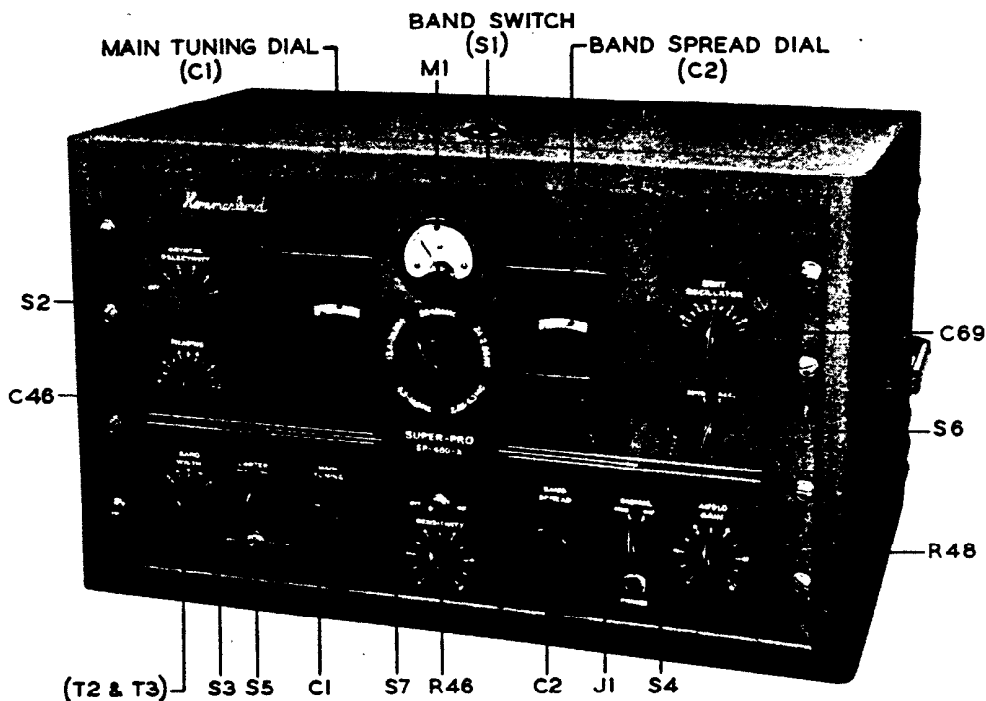
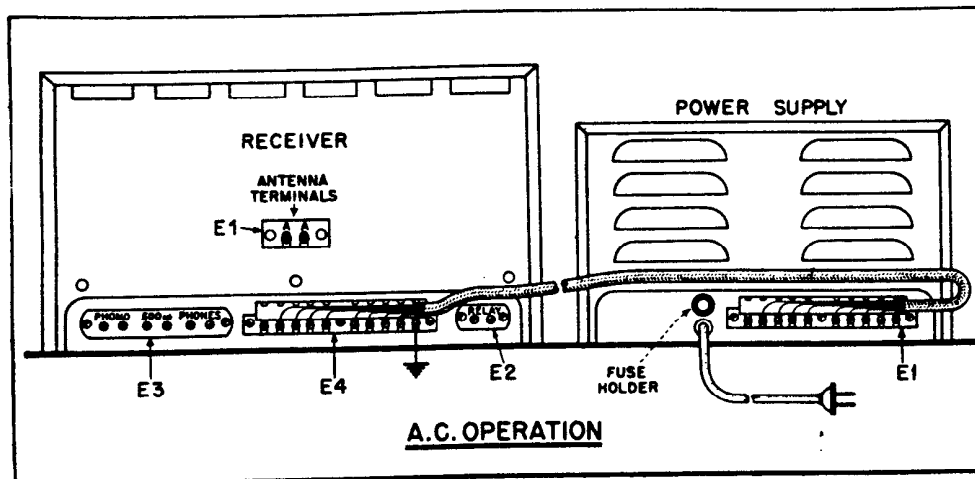

FIG. 2—Lay-out of controls referred to in text.
FIG. 3—Connectors for power cable—A.C. operation.
panel (FIG. 2). Select the desired band by turning the BAND SWITCH knob right or left to the band indicated.
a. *Rating*—The total power output is approximately 8 watts. The total harmonic distortion of the output stage is less than 10% at this output and is, of course, less at lower levels. The Receiver has two output circuits with marked terminals along the rear of the chassis (FIG. 3).
(1) Remove the sheet-metal covers from terminal strip (E4, FIG. 3) on rear of Receiver and from terminal strip (E1, FIG. 3) on Power Supply. See that all ten screws on each strip are unscrewed at least three turns. Then attach one end of the connector cable to each terminal strip *exactly* as shown in FIG. 3 and tighten all screws securely. Make certain that each slotted spade lug on the cable strips makes contact with its respective screw terminal *only*, since a lug jammed between *two* screws could cause considerable trouble. Immediately
Connect a single-wire lead-in to the end of the antenna nearest the Receiver and try to have the lead-in wire leave the antenna approximately at right angles. Connect the lead-in to one of the "A" terminals (on terminal strip E1, FIG. 3) at the rear of the Receiver. Connect the other "A" terminal to a good ground, preferably not to the Receiver chassis. Run this ground lead to a water pipe or to a metal rod driven into the ground deep enough to reach moist earth. Keep the length of the ground lead as short as possible. Make the best possible electrical connections between the antenna and its lead-in and between the ground lead and "ground."
d. *Chassis Ground*: It is not usually necessary to ground the Receiver chassis, but this can be done by connecting the ground lead to the left-hand PHONO or to the left-hand PHONES terminal (located on terminal strip E3, FIG. 3). These two terminals are grounded to the inside of the chassis.
e. *Earphones*: Plug a headset into the PHONES jack (J1, FIG. 2), or connect it to screw terminals marked PHONES on rear of chassis. No matching transformer is necessary (see PAR. 20b).
f. *Loudspeaker*: The permanent magnet dynamic loudspeaker supplied with the Receiver has a transformer mounted on its housing. This transformer matches the voice coil of the loudspeaker to the 500-ohm output terminals (on terminal strip E3, FIG. 3) located at the rear of the chassis (marked 500 ohms). For loudspeaker operation,
h. Line Switch: Turn the OFF-ON switch (S7, FIG. 2) on the Receiver front panel to OFF and plug the power cord of the Power Supply into the a-c powerline.
a. *Radiophone Reception:* Set the front panel controls (FIG. 2) as follows:
(1) Throw OFF-ON power switch in center of panel to ON. This puts Receiver in operation.
(2) Adjust band switch (S1, FIG. 2) to a band which is likely to be very active. This will facilitate the process of getting familiar with the various adjustments. If interference is not serious, BAND WIDTH control can be adjusted to a wider band width (higher number), depending upon the degree of fidelity desired. In general, adjust this control to band width giving best tone with least interference.
(3) Do all tuning, with or without the meter with BAND WIDTH control set at 3. Other settings give wider bands, making exact tuning difficult. Make band width adjustments *after* signal is tuned properly.
(4) LIMITER-OFF-ON control turns noise limiter on and off. The noise limiter will be most valuable on the higher frequencies, where interference from automobile ignition system is most bothersome.
(1) On strong signals, do not turn SENSITIVITY control all the way on, because it will cause overloading. If the AUDIO GAIN control is set at about 7, it is possible to regulate volume by using only the sensitivity control.
(2) To turn on the beat oscillator, set SIGNAL-MOD-CW switch at CW. The BEAT OSCILLATOR control varies the pitch of the beat between oscillator and incoming signal. Use beat oscillator for code reception and for locating weak modulated signals.
(3) Fading signals can be improved by returning AVC-MANUAL switch to AVC.
d. *Receiver Silencing:* Receiver can be silenced by flipping the SEND-REC switch (S6, FIG. 2) to SEND. This operation opens the "B" supply to the R-F and 1st detector tubes (V1, V2 and V3). The Receiver then remains ready for instant service during transmission periods. Note also that instead of using the SEND-REC switch, a relay may be connected to the RELAY terminals (E2, FIG. 3) at rear of Receiver and silencing controlled by relay action, actuated, for example, by the associated transmitter. When using a relay for silencing, flip SEND-REC switch to SEND (open) and *leave* it there. While the
e. Phono Operation: Leads from a phonograph pickup may be connected to the PHONO terminals (on terminal strip E3, Fig. 3) at the rear of the Receiver. (Note that the left-hand terminal of this pair is grounded to chassis.) Use the SEND-REC switch (S6) as a “phono-radio” switch by flipping it to the SEND position, thus eliminating radio interference and making it unnecessary to hunt for a “dead spot” on the tuning dial.